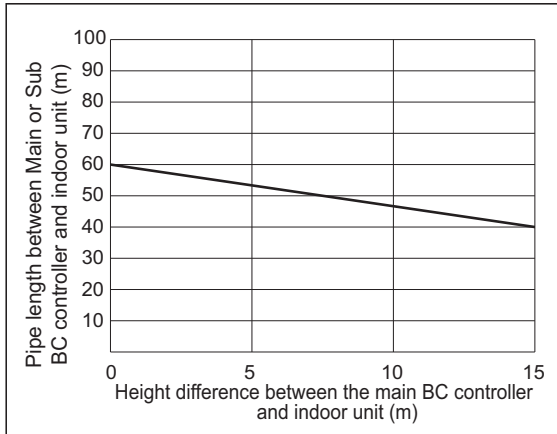

Fig. 2
- *2. Details refer to Fig. 2.
- *9. When the piping length or the vertical separation exceeds the limit specified in Fig. 2, connect a sub BC to the system. The restriction for a system with a sub BC connection is shown in Fig. 3. When a given system configuration falls within the shaded area in Fig. 3, increase the size of the high-pressure pipe and the liquid pipe between the main BC and sub BC by one size. When using P32, P40, P50, P100, or P125 model of indoor units, increase the size of the liquid branch pipe between the sub BC and indoor unit by one size. When using indoor models P140 or larger, the restrictions shown in Fig. 2 cannot be exceeded.
*9. When the piping length or the vertical separation exceeds the limit specified in Fig. 2, connect a sub BC to the system. The restriction for a system with a sub BC connection is shown in Fig. 3. When a given system configuration falls within the shaded area in Fig. 3, increase the size of the high-pressure pipe and the liquid pipe between the main BC and sub BC by one size. When using P32, P40, P50, P100, or P125 model of indoor units, increase the size of the liquid branch pipe between the sub BC and indoor unit by one size. When using indoor models P140 or larger, the restrictions shown in Fig. 2 cannot be exceeded.